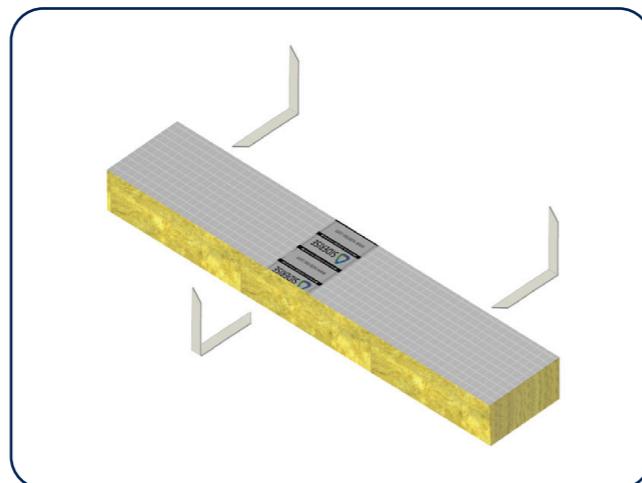

Fig 2. 3No. fixing brackets are required per 1200mm strips.
- Fixing brackets are supplied in a flat form for suitable folding on site. Impale the galvanised steel B355 fixing brackets into the edge of the material at mid thickness. 3No. brackets are required per 1200mm strip (Fig.2). For FF-NPC60 & FF-PC60WJ the brackets are to be positioned with 1 No. at 150mm from each end and 1 No. centrally on the opposite face. For FF-NPC60WJ the brackets are to be positioned with 1 No. at 300mm from each end and 1 No. centrally on the opposite face.